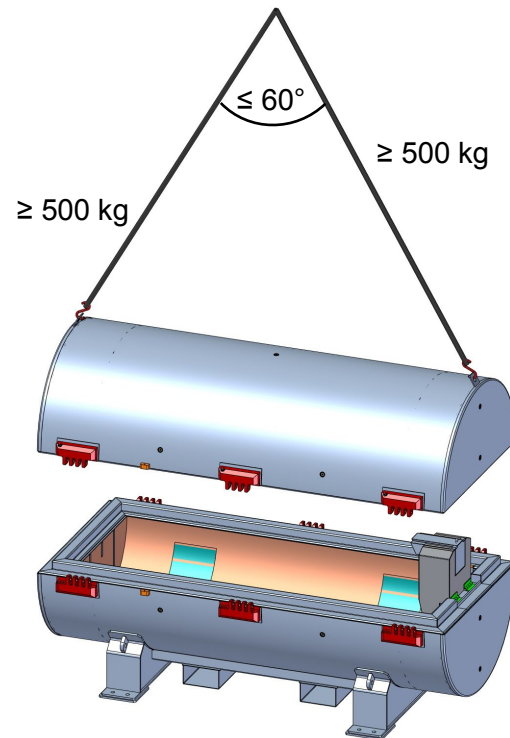

Figure 7: Lifting Lugs for Lifting the Top Half
For lifting its top half, the DN30 PSP is fitted with two lifting lugs welded to the surface of the top half of the DN30 PSP as shown in Figure 7. The lifting lugs at the top half are allowed to be used only for handling of the top half as is printed on both front faces of the DN30 PSP (see Figure 5). Additionally, the lifting lugs at the top half have to be rendered inoperable during transport to avoid incorrect use.
- The angle between the slings has to be 60° or less, as shown in Figure 7.